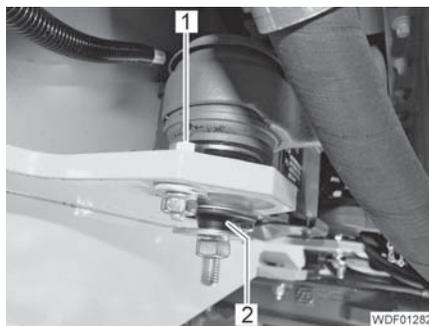

Fig. 66 Spacer
- Unscrew the 2 screws (Fig. 66,1).
- Remove the spacer (Fig. 66,2).
- Screw in and tighten the 2 screws (Fig. 66,1).